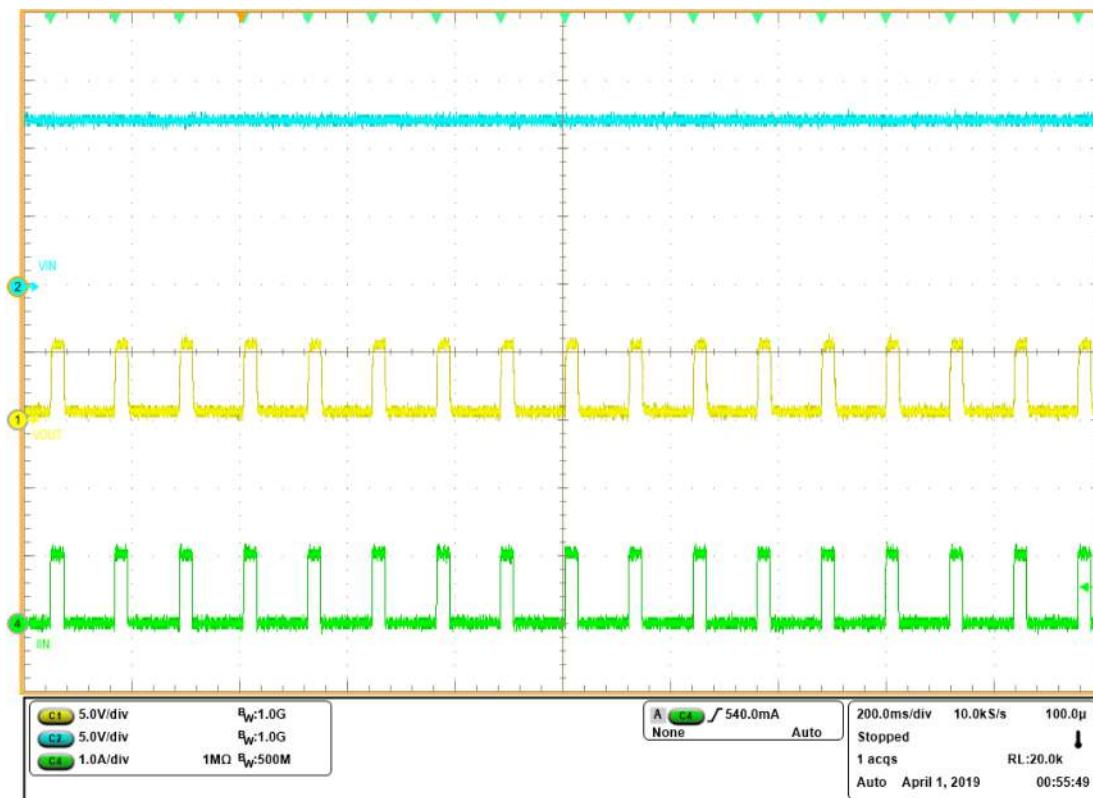

Figure 3. J4 = 3-4, Current Limit (1.0 A) Test Auto Retry (CH1)
3. Set the output load at $5.0 \Omega \pm 0.5 \Omega$ on CH1 and then enable the load. Turn on the VIN1 power supply and verify that input current is limited, as per the setting in the Table 9. Verify the device is in auto-retry mode and that the FLTb1 RED LED (D3) turns on and off as shown in Figure 3. The level of the current pulse should match with the load current limit (based on the respective jumper setting), as shown in Table 9.